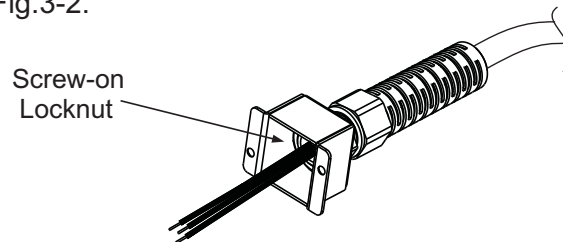

Fig.3-2: Stripped Wires installed in Strain Relief
- 3.Slide the helix-shaped body onto the AC cable. Insert the stripped wires through the strain relief base until the outer cable jacket is flush with the edge of the base. Tighten (16-18 Lb-inch.) the body to the base while holding the cable in place. Now the cable is securely fastened inside the strain relief. Refer to Fig.3-2.